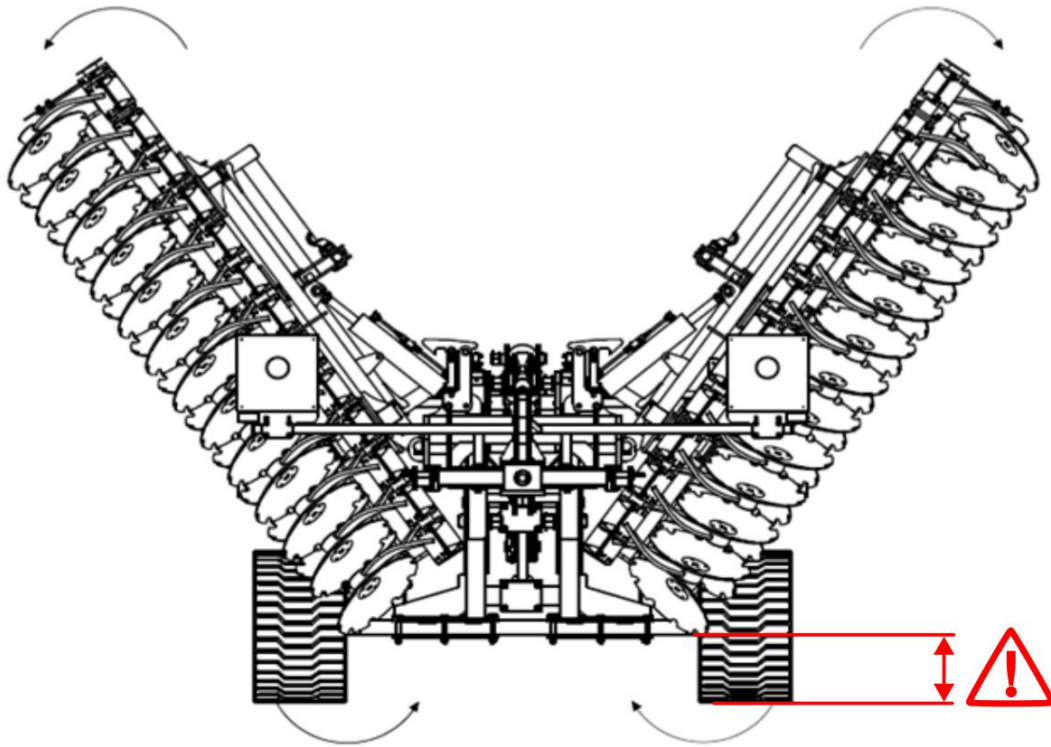

Figure 12 Machine opening sequence: opening the machine with special attention to the height of the arm ends from the ground.
- 4) Begin opening the machine's wing arms (check the correct height preventing them from snagging on the ground !) (fig.12)
- 5) Don't stop and continue opening sequence of the machine wings until their final position. (fig. 12)